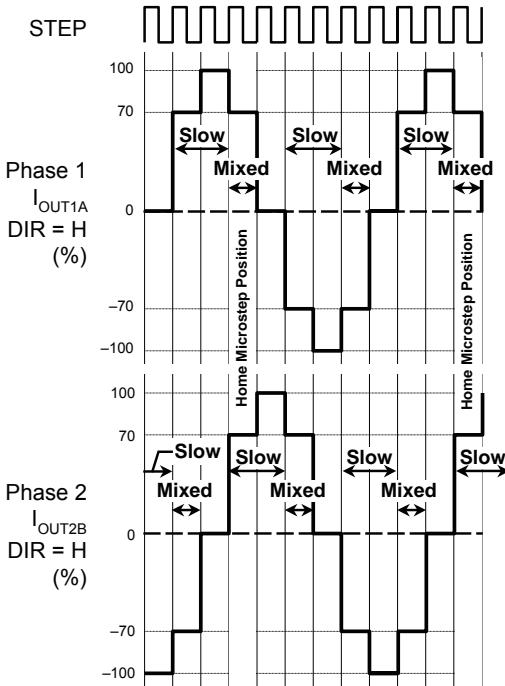

Figure 3. Decay Modes for Half-Step Increments
**Mixed Decay Operation** The full bridges can operate in mixed decay mode when set by the step sequence (see figures 3 through 5). As the trip point is reached, the device goes into fast decay mode for 30.1% of the fixed off-time,  $t_{OFF}$ . After this fast